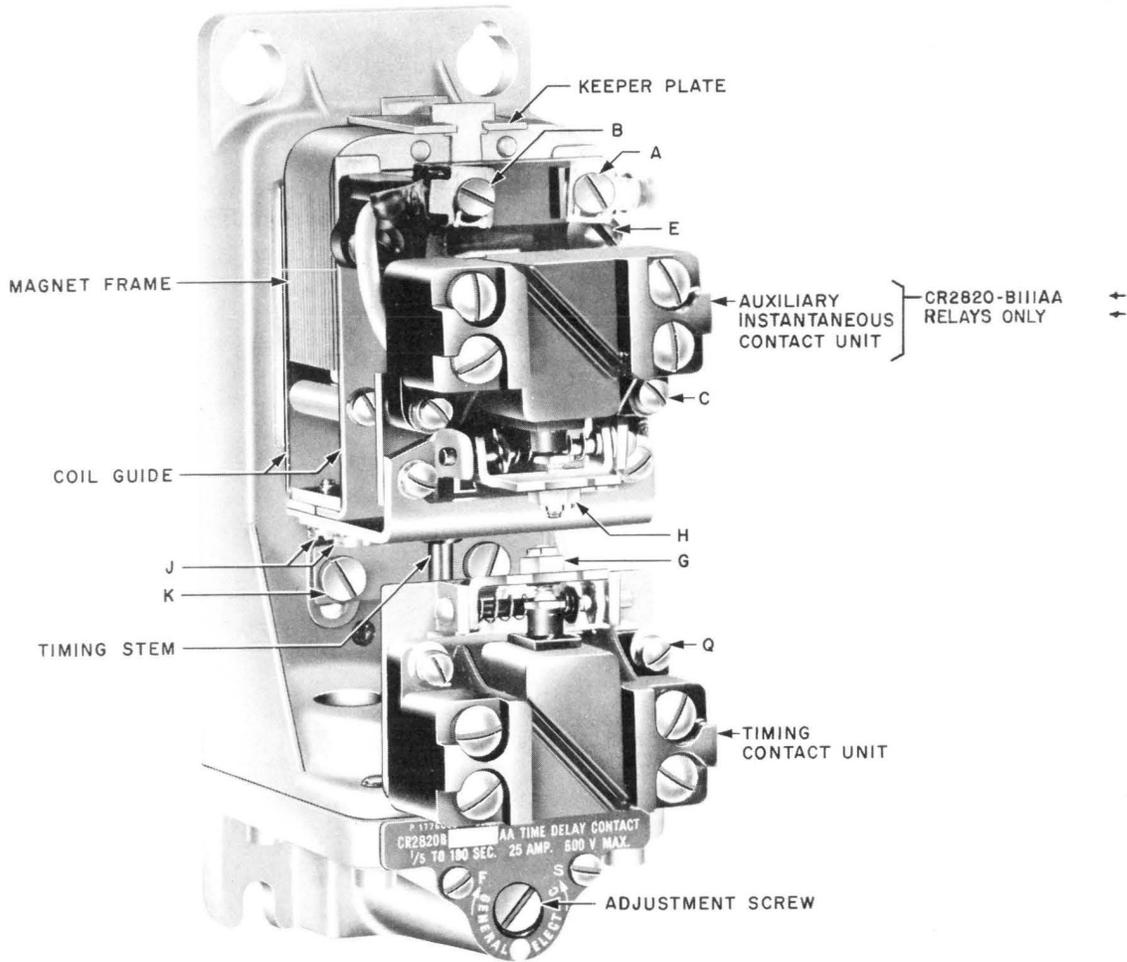

Fig. 14 – CR2820-B110AA and CR2820-B111AA Pneumatic Time-Delay Relays (CR2820-B111AA shown)
(a) The pneumatic time-delay auxiliary contact is similar to the lower half of the relay shown in Fig. 14. It consists of a timing stem, timing contact unit, and pneumatic head and frame. The pneumatic time-delay auxiliary contact is a component part of a start contactor by which it is actuated.
(b) **Timing Contact Unit** (see Fig. 14): To replace the timing contact unit, remove screws (Q) which will release the contact unit from its mounting bracket. Reassemble the new contact unit with screws (Q) and adjust screw (G) as indicated in step (c).